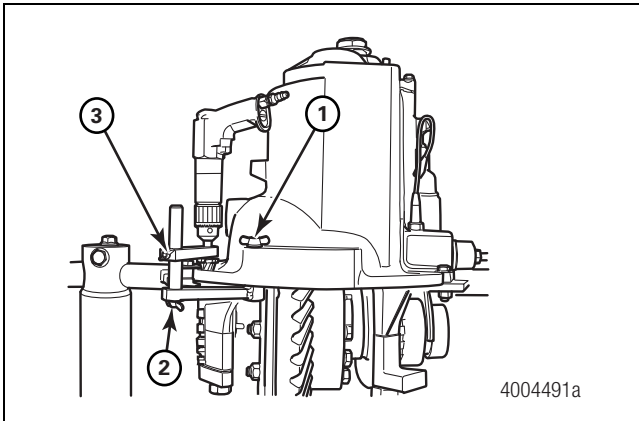
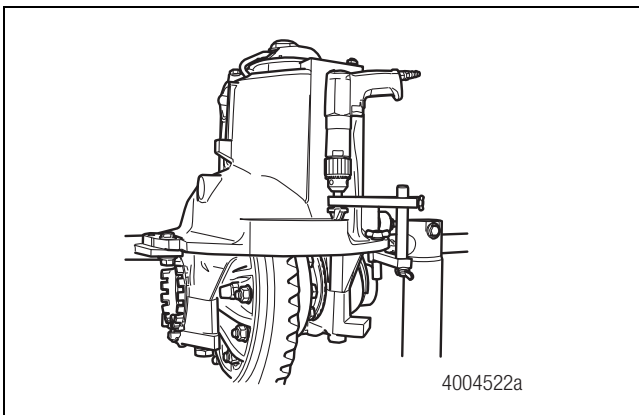

Figure 4.21
Figure 4.22
2. Slide the tapered reamer bit into the jig hole. Attach the jig to the adjacent bolt hole. Figure 4.21 and Figure 4.22.
3. Align the tapered reamer bit pilot in the carrier hole. The bit must fit at a 90-degree angle to the carrier flange surface. Figure 4.22.
4. Tighten the jig bolts in the order shown. Figure 4.21. The tapered reamer bit pilot must be all the way in the carrier hole and positioned 90 degrees to the carrier flange.